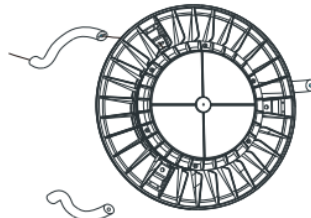

Figure 2
2. The threading rod corresponds to the hole to thread the power cord [Figure 2]